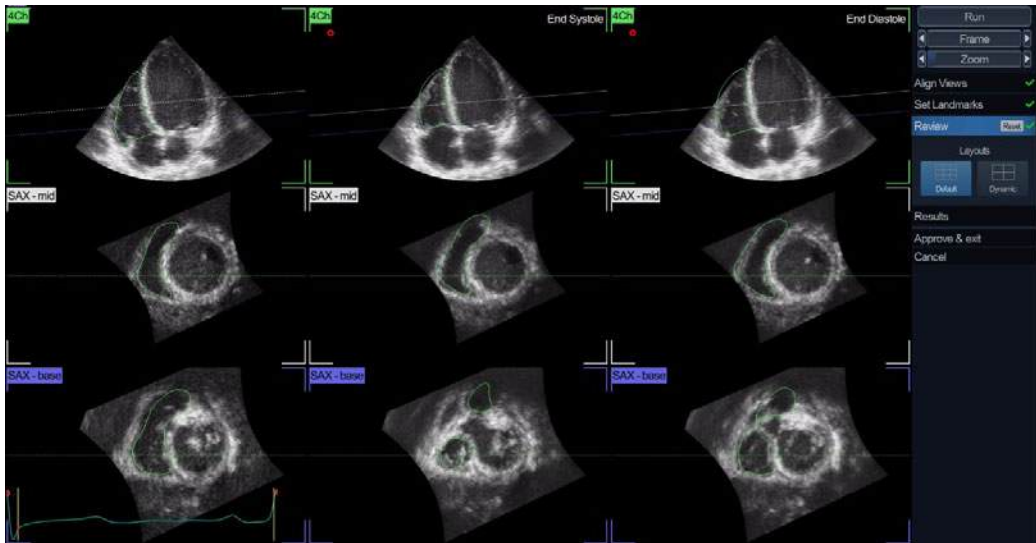

Figure 8-56. The Review stage.
The default screen displays nine (9) slices on the 3D data in a 3x3 grid (Figure 8-56):
- First row shows 4-chambers view playing (1st column), at End Diastole (ED) (2nd column) and at End Systole (ES) (3rd column).